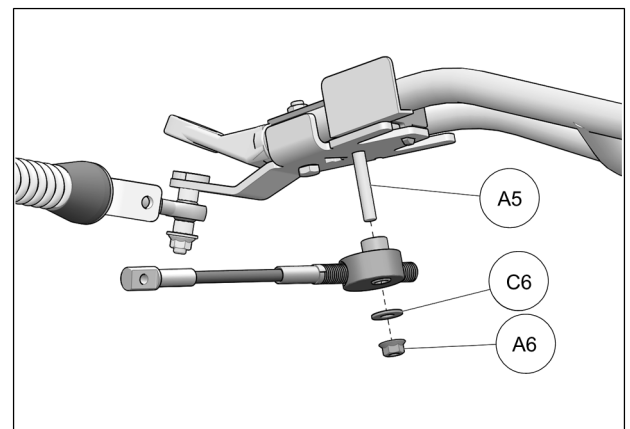

Fig. 24
14. Position Steering limiter cable assembly under front anchor bracket and slide it up on the previously inserted bolt (A5). Assemble using washer (C6) and nut (A6). Tighten nut to 50 N•m [37 lb•ft]. See Fig. 24